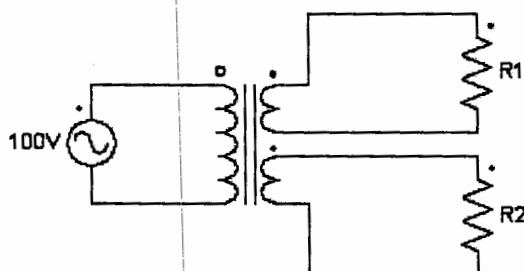

Fig. 7
- (b) Determine the output voltage from each secondary winding of the transformer in Fig. 7. Determine also the total primary current, assuming that the transformer is 100% efficient. The numbers of turns on each winding are  $N_p = 375$ ,  $N_{s1} = 750$ , and  $N_{s2} = 500$ .  $R_1 = 75 \Omega$  and  $R_2 = 75 \Omega$ .